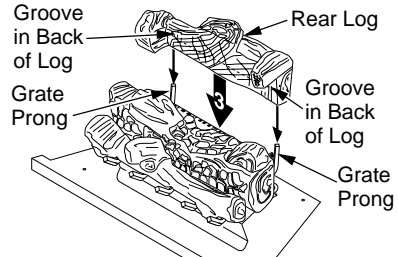

Figure 26 - Installing Rear Log
3. Slide the grooves in the back of the rear log against the rear grate prongs. Make sure the log fits securely over the prongs (see Figure 26). Make sure log is completely vertical and not leaning in toward burner where the flame will touch the log.